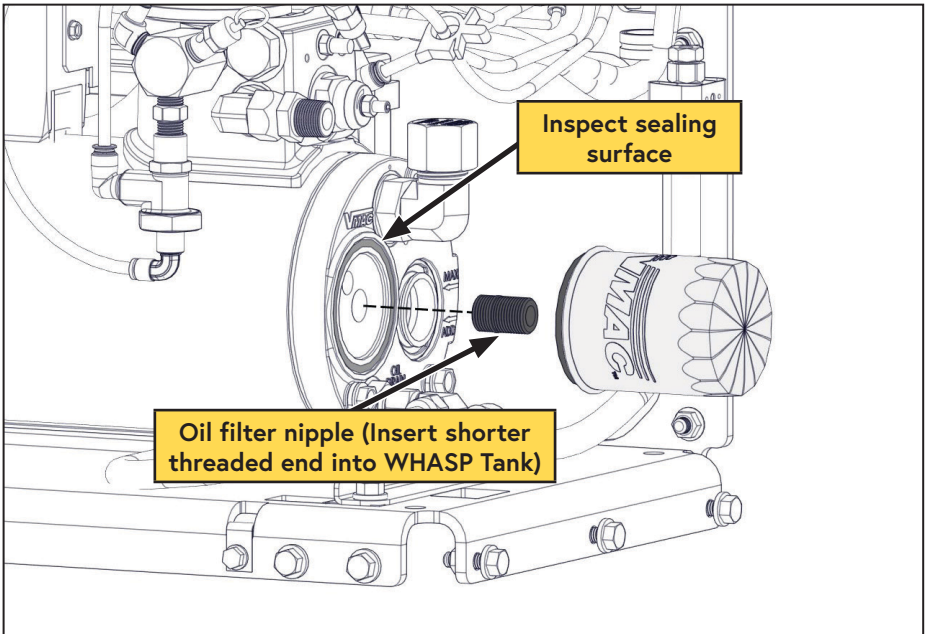

Figure 35 — Compressor oil filter
- ☐ *To reinstall the nipple, thoroughly clean the threads and apply Loctite 242 (blue) to the end with the short threads and replace it in the AOST (Figure 35).
- ☐ Clean the gasket sealing surface on the front of the tank and inspect it for damage. The surface must be free of old gasket material and smooth to ensure a good seal. (Figure 35).